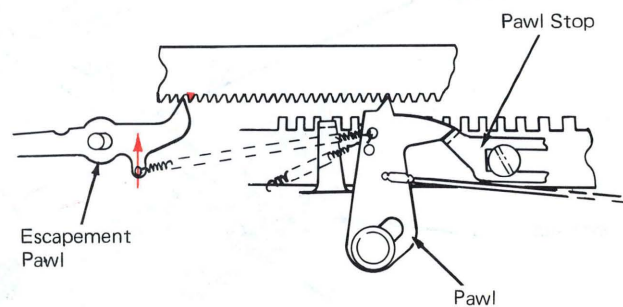

Figure 6 – Backspace Pawl Against Stop (Bottom View)
4. Just after the escapement pawl drops into the next tooth, the backspace pawl contacts the backspace pawl stop. The cam rotation continues, momentarily catching the backspace pawl between the pawl stop and the escapement rack to prevent further carriage movement. All parts return to rest position after the cam restores (Figure 6).